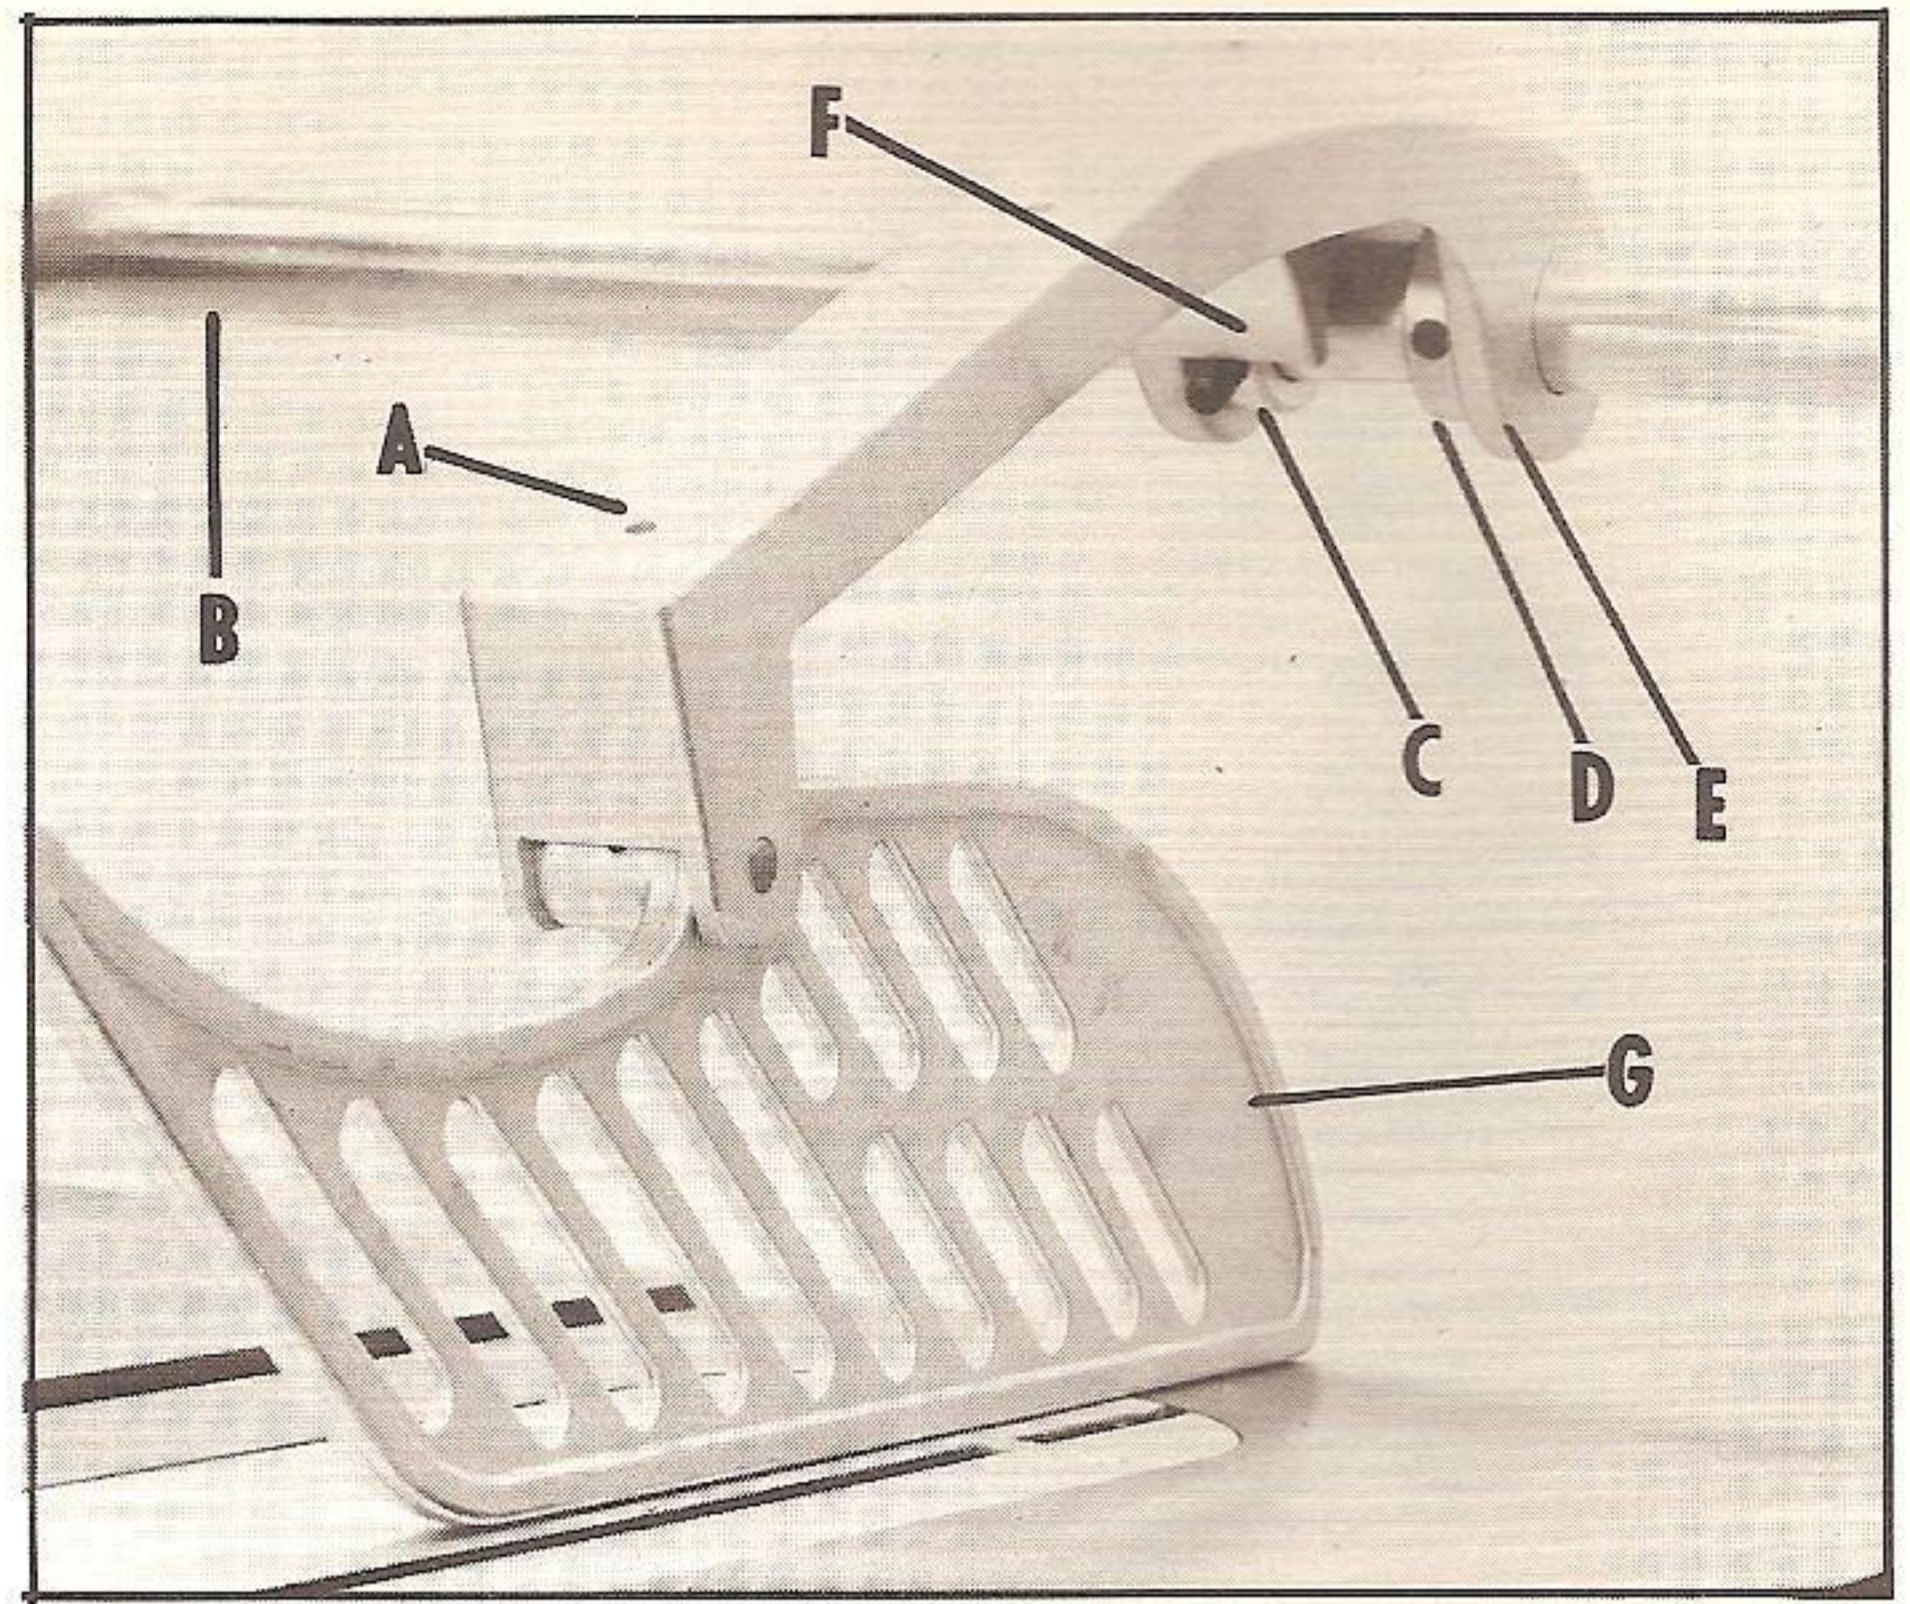

Fig. 17
6. With the support arm (B) set to the right, place the basket assembly (A) and the two collars (C) and (D) on the support arm. Collar (C) should have the long set screw and collar (D) should have the short set screw. Position the basket assembly (A) so the bottom of the basket (G) is safely clear of the saw blade as shown in Fig. 17. When this is done, move collar (D) against the casting (E) and tighten set screw in collar (D). Then move collar (C) against the other end of the casting, as shown in Fig. 17, and position the long set screw in collar (C) so that it is almost touching the edge of the casting (F). This will let the basket (G) Fig. 17, rest on the table without interference and also become a stop when the basket arm is raised.